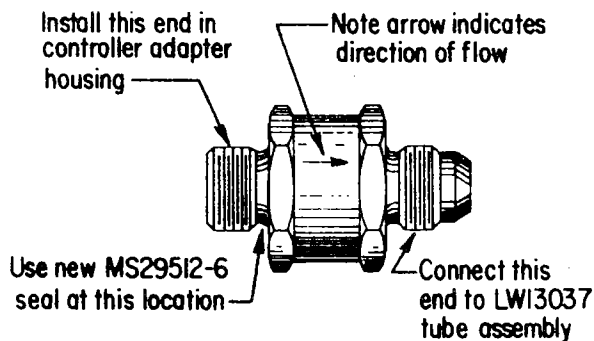

Figure 1. Fuel Drain Line Check Valve No. LW-12745
2. Install the LW-12745 check valve with a new MS29512-6 seal in the tapped hole in the adapter assembly from which the union was removed. Be sure the check valve is installed with the arrow (indicating direction of flow) pointing away from adapter assembly. See figure 1. Tighten the valve with 75 to 125 in. lbs. torque.